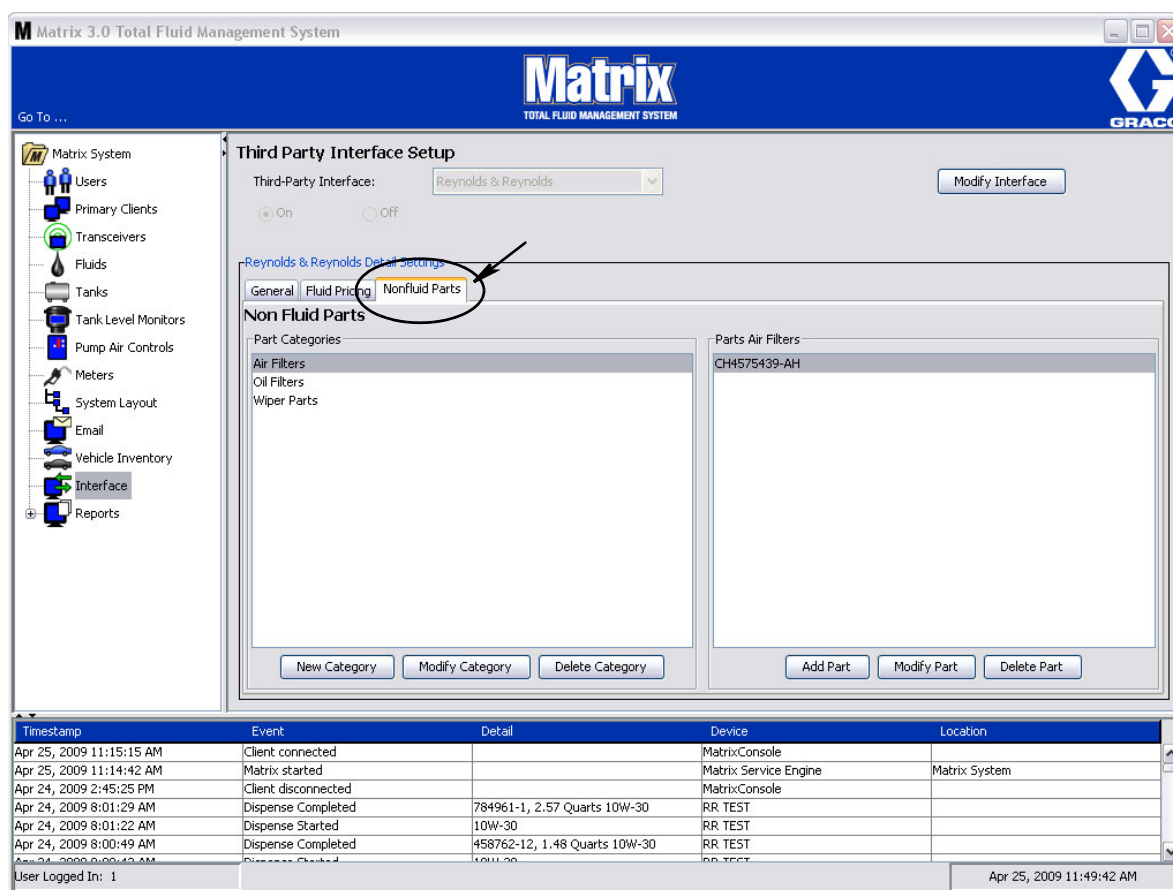

FIG. 193
The **Non-Fluid Parts** portion of the Matrix, Reynolds & Reynolds Interface Setup screen (FIG. 193) allows you to:
2. Click the **OK** button to add the new Part Category to the list displayed on the Part Categories column of the Non-Fluid Parts Screen (FIG. 193, page 150).
3. Click the **OK** button to confirm the changes you have made and revise the list displayed in the Part Categories column of the Non-Fluid Parts Screen (FIG. 193, page 150).